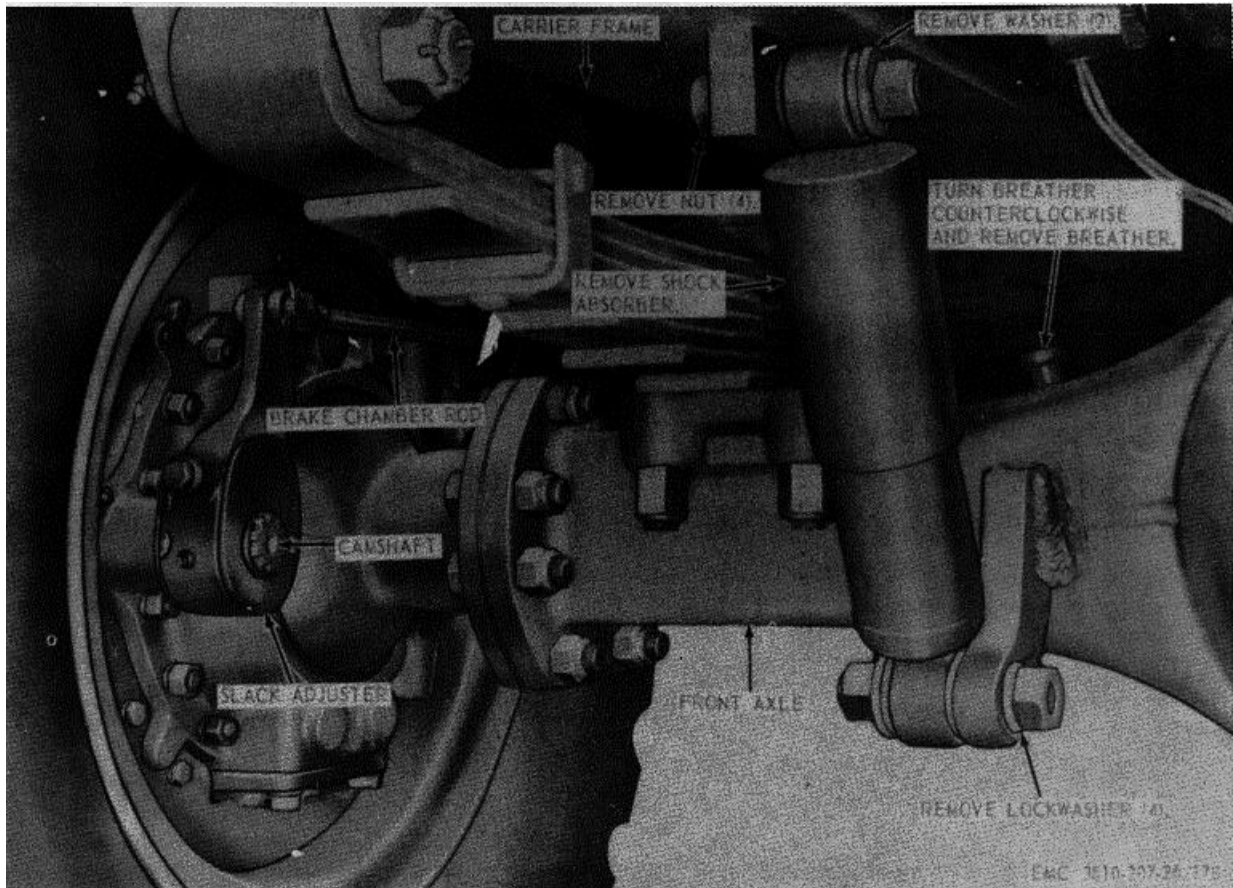

Figure 178. Right-front shock absorber and differential breather, removal and installation.
- (1) Remove the shock absorber as instructed on figure 178.
- (2) Remove the left-front shock absorber in a similar manner.
- (1) Install the right-front shock absorber as illustrated on figure 178.
- (2) Install the left-front shock absorber in a similar manner.
- (1) Remove the front differential breather as instructed on figure 178.
- (2) Remove rear differential breathers in a similar manner.
- (3) Remove the transfer case breather in a similar manner.
- (1) Install the front differential breather as illustrated on figure 178.
- (2) Install the remaining breathers in a similar manner.